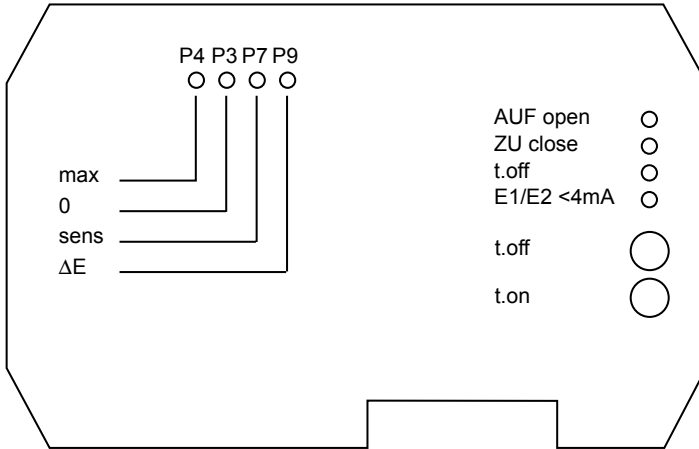

Fig. 13
4.5.2 LED setting at closed position (see Fig. 13):-
4.5.4 LED setting at open position (see Fig. 13):